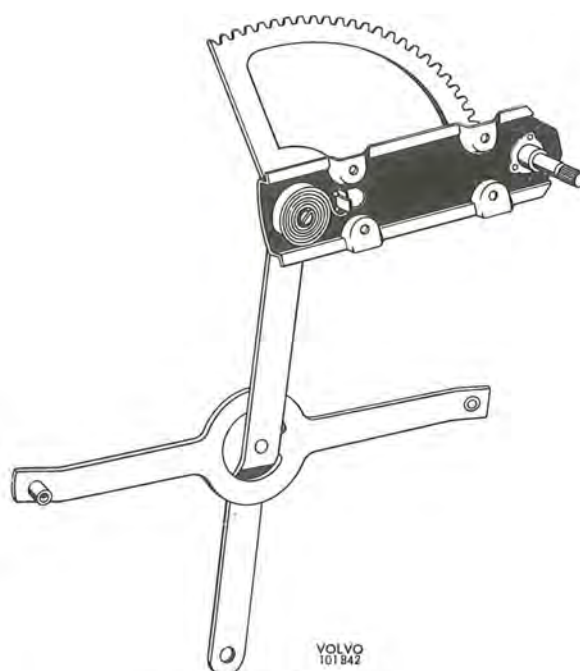

Fig. 8-15. Winding mechanism
6. Remove the attaching screws for the window winder, see Fig. 8-8, and remove it from the door, see Fig. 8-15.